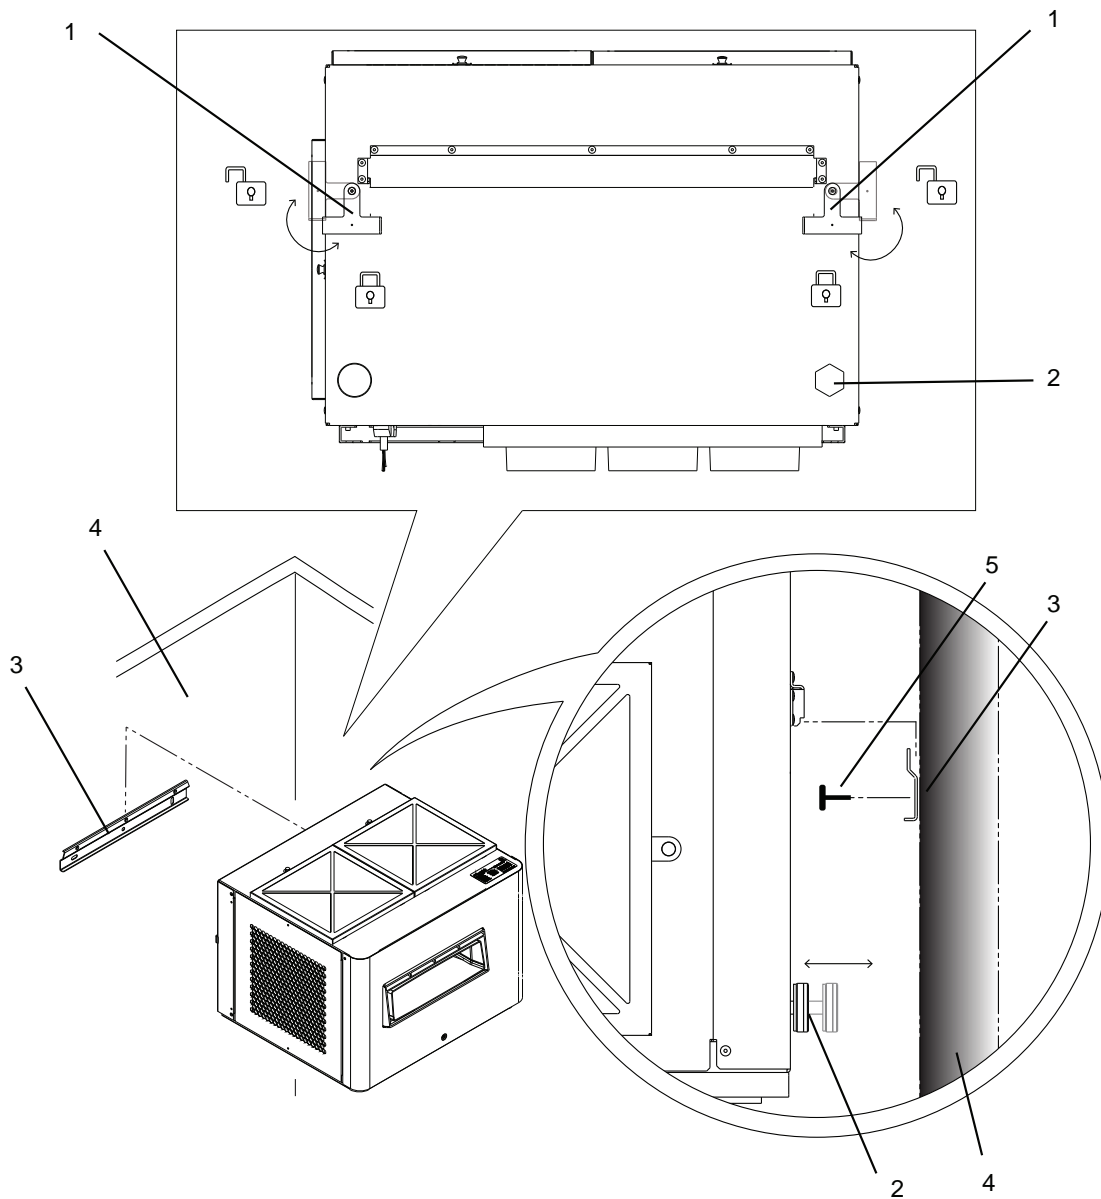

Figure 8 - Remote Mounting the Ultrasonic Blower Pack
- a. Locate a 2×4 wooden stud or equivalent support in the mounting surface, and mark the position with the help of a level – refer to Figure 8 on the facing page.